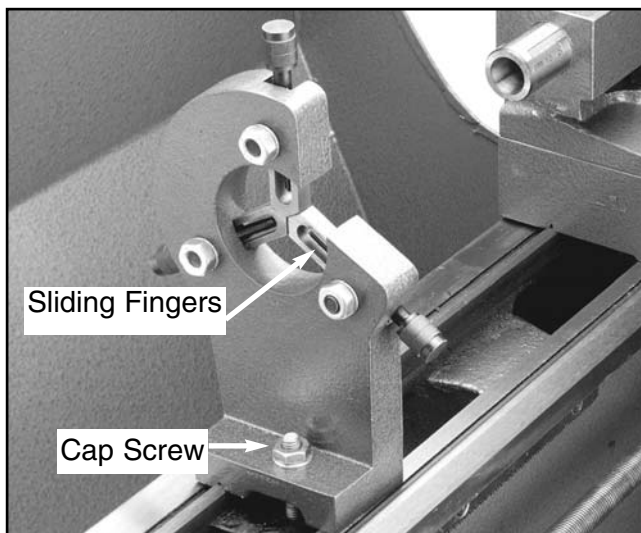

Figure 5. Steady rest in place.
2. A single M8-1.25 x 55mm cap screw, along with a nut and washer, holds the steady rest in place. **See Figure 5.**